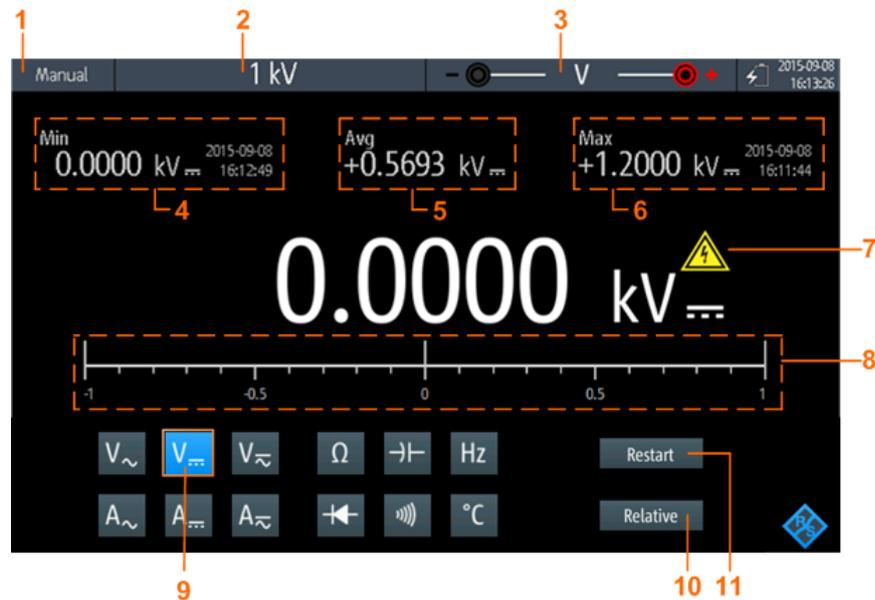

Figure 5-1: Display of the digital multimeter
3. Select the measurement type (no. 9 in Figure 5-1).